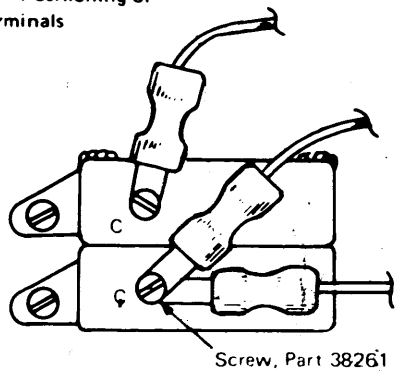

Figure 2-40. Head-Load Solenoid Switch Adjustment [07576A]
5. Adjust lever stop bracket (Figure 2-40)Fr. B11 by its securing screws to obtain a clearance of 0.015 in.  $\pm$  0.010 (0,38 mm  $\pm$  0,25) between bracket and lever with no slack on the head-load cable. Press *lightly* on the solenoid plunger to take up cable slack.
4. Remove circlip from pivot pin and push out pin (see Figure 2-40)Fr. B11 Make sure that pin is not dropped.
5. Remove solenoid securing screws (2) and withdraw unit.
5. Check that both solenoid switches (see Figure 2-40)Fr. B11 transfer when solenoid plunger is 1/10 in. (2,5 mm) from the bottomed position.
6. Slowly depress solenoid plunger until it bottoms (see Figure 2-40)Fr. B11
3. Remove screw securing switch mounting plate (see Figure 2-40)Fr. B11
*Note:* When connecting the leads to the common positions on the switches, locate the terminals as shown in Figure 2-40 Fr. B11 (view on arrow A) using screw, part 38261, for the double connection.